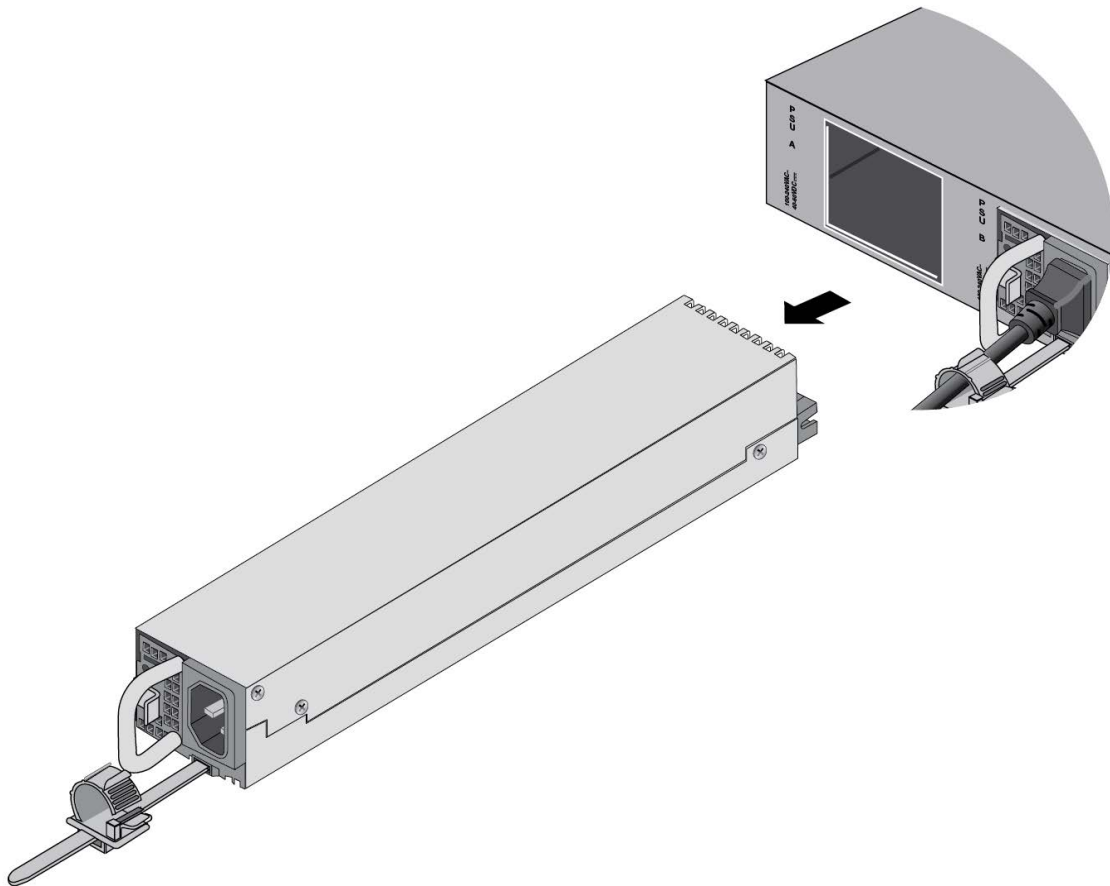

Figure 148. Removing the PWR600 Power Supply
5. Carefully slide the power supply from the switch. Refer to Figure 148 on page 256.